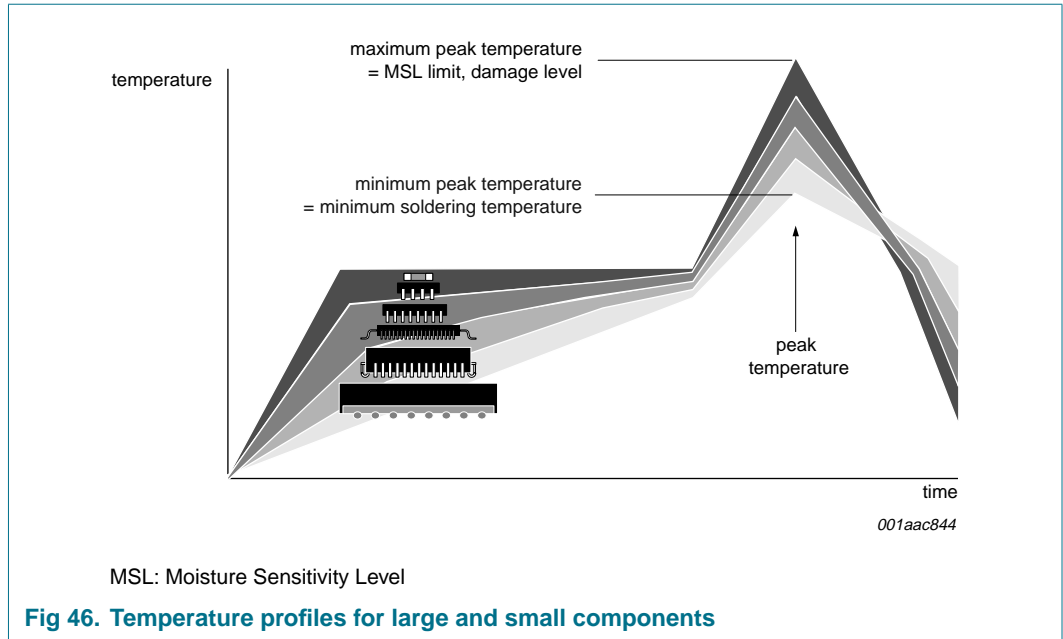

Fig 46. Temperature profiles for large and small components
- Lead-free versus SnPb soldering; note that a lead-free reflow process usually leads to higher minimum peak temperatures (see Figure 46) than a PbSn process, thus reducing the process window
Studies have shown that small packages reach higher temperatures during reflow soldering, see Figure 46.